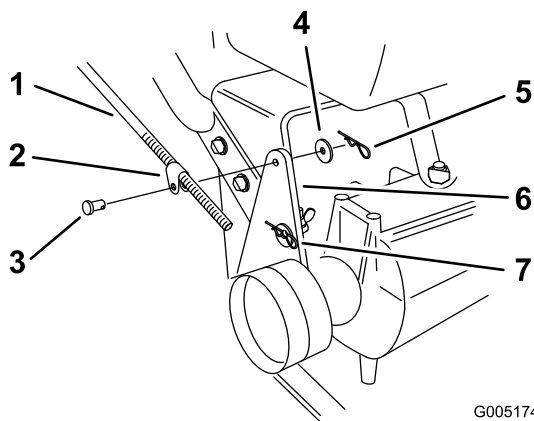

Figure 40
2. Check the operation. If adjustment is required, remove hairpin cotter, washer and clevis pin securing control rod fitting to idler bracket (Figure 40).